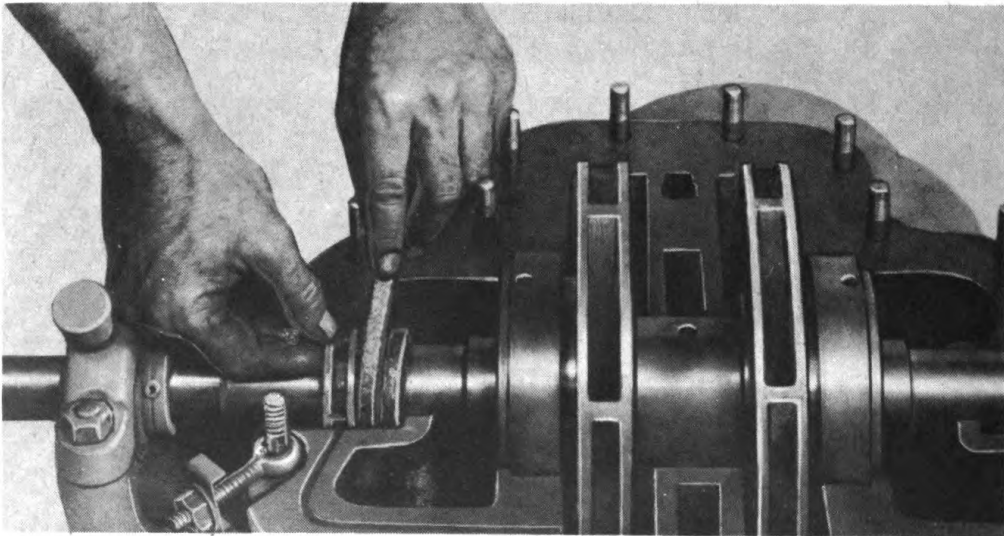

Figure 51—Packing Coupling End of Shaft
a. In packing the shaft, work from the coupling end and insert the packing rings by forcing down around the shaft staggering rings so that the ends come reverse of each other in order to bind and overlap the ends. After second ring is placed, bring lantern ring into position aligning with the groove in the volute. Then add three additional rings outside on the lantern ring. (Figure 51.)